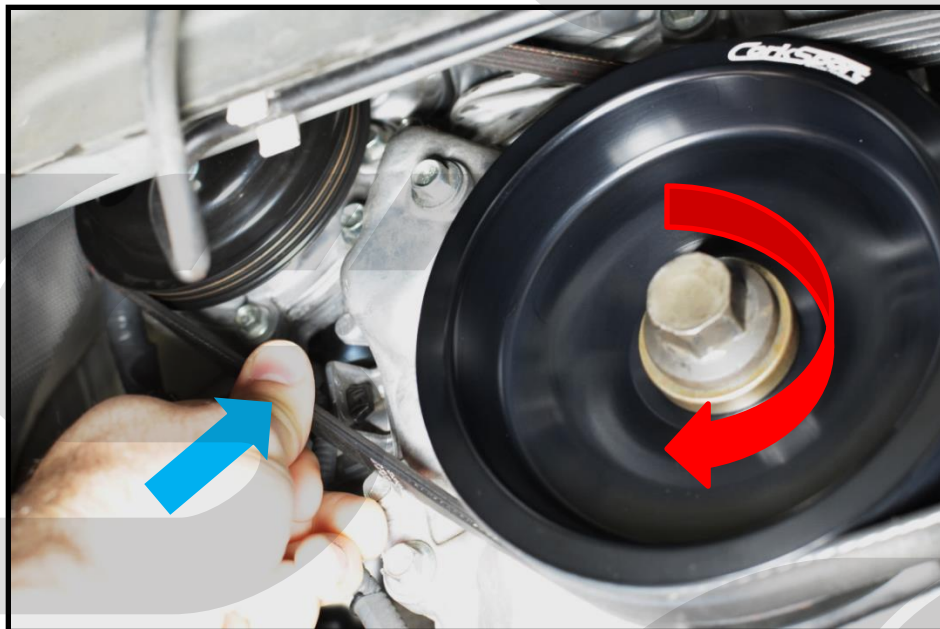

Figure 4a
- b) **Install the water pump belt (aka the stretchy belt)**. Shown in **Figure 4a**, place the belt in the inward set of grooves on the crank pulley. Then place the belt around the smooth section of the water pump pulley. Use the 21mm socket and ratchet to rotate the crank clockwise while pushing the edge of the belt towards the engine and into the grooves of the water pump pulley (**blue arrow**).